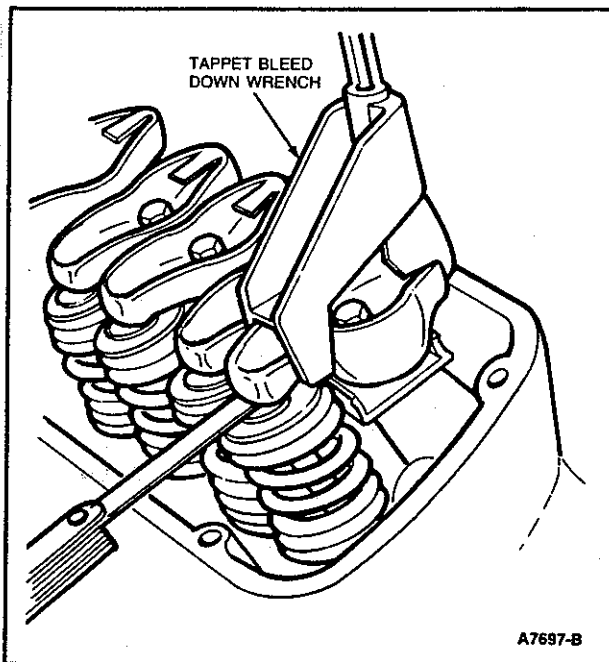

Figure 41 Checking Valve Clearance — Hydraulic Valve Tappets
The use of positive stop rocker arm bolts eliminates the need to adjust the valve clearance. However, to obtain the specified valve clearance, it is important that all valve components be in a serviceable condition and installed and tightened properly. On older model engines with positive stop studs, each stud nut should be removed and inspected for conditions shown in Figure 41 when adjusting valve clearance.
- Position the tappet compressor Tappet Bleed Down Wrench or equivalent on the rocker arm (Figure 41).
3. Slowly apply pressure to bleed down the tappet until the plunger is completely bottomed (Figure 41). Hold the tappet in this position and check the available clearance between the rocker arm and the valve stem tip of #1 intake and exhaust valve with a feeler gauge.